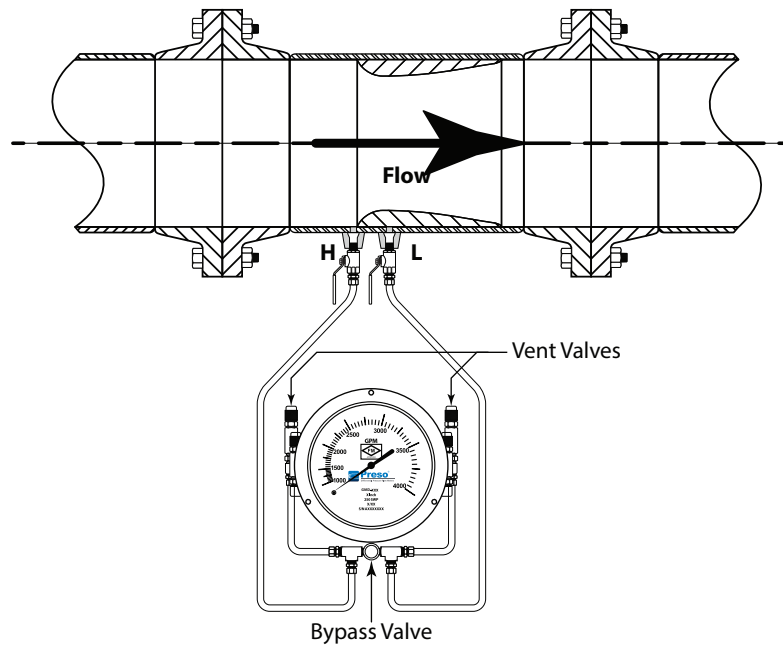

Figure 1: Recommended liquid installation
- For liquid applications the GMD should be installed below the primary element in a level position (see Figure 1). If recommended mounting is not possible, care must be taken to ensure that the gage is vented periodically.